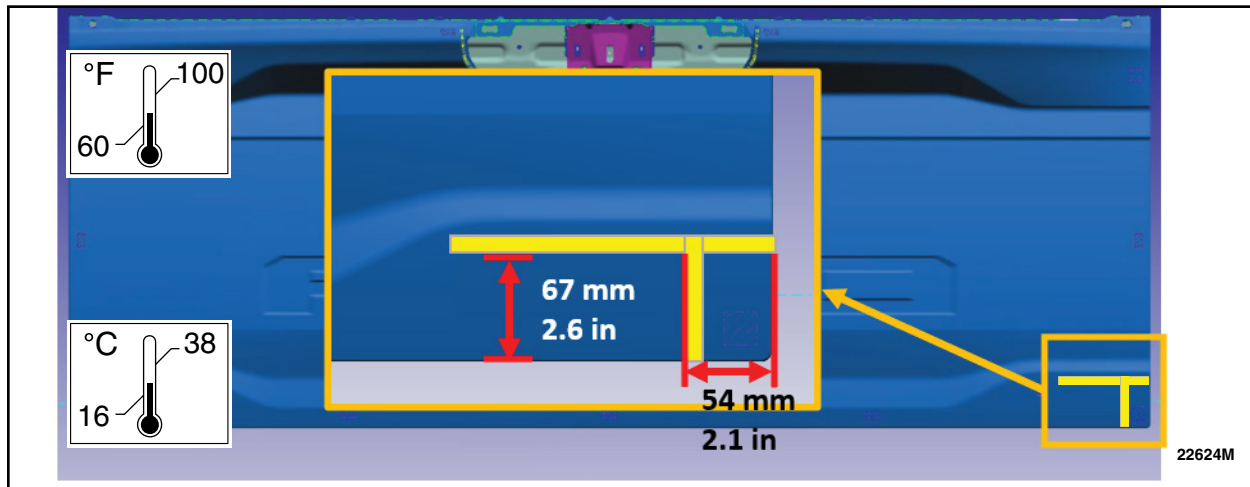

FIGURE 6
27. Measure and apply locating masking tape to the tailgate outer panel. See Figure 6.